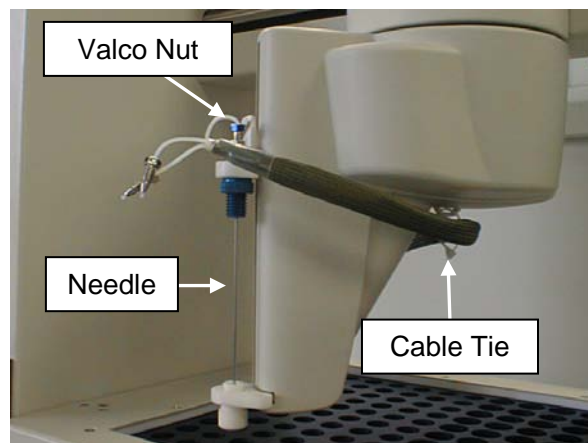

Figure 1.7.2.2
- The PTFE tube should be connected to the right hand port of the autosampler syringe valve. From the PL-GPC 120/XT run the tube around the back of the autosampler to the syringe valve passing through the cable tie on the rear of the autosampler, as shown in figures 1.7.2.3 and 1.7.2.4.